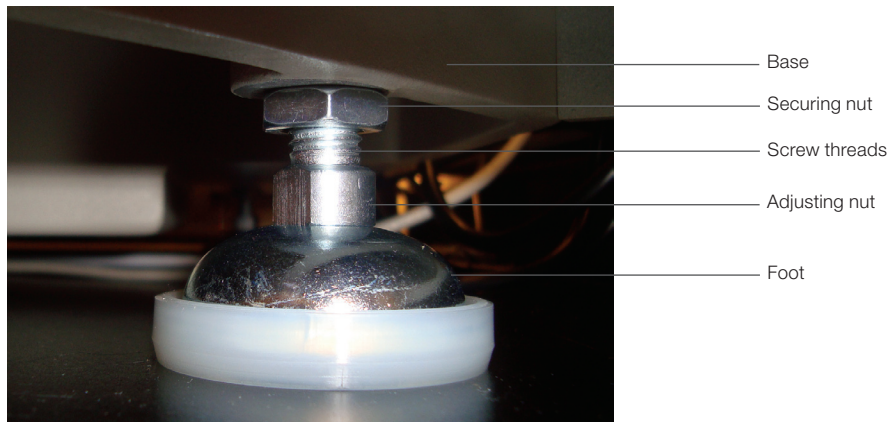

Fig. 8. Foot assembly.
3. Turn the securing nut down toward the bench until it rests against the adjusting nut (Figure 8). Repeat on all four foot assemblies.